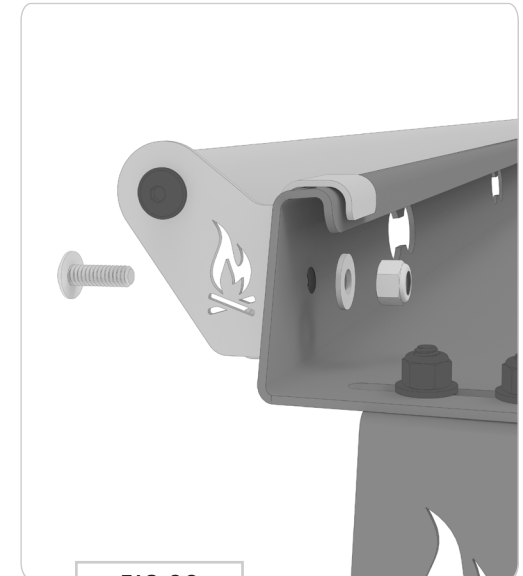

FIG 22
6.4 Install Curtain Rod to Headliner Shelf: Hang the **Curtain Rod** back onto the **Headliner Shelf**. Put remaining **Screws** through the drilled mounting holes and secure with a **Flat Washer** and **Nylon Locknut** (FIG 22).